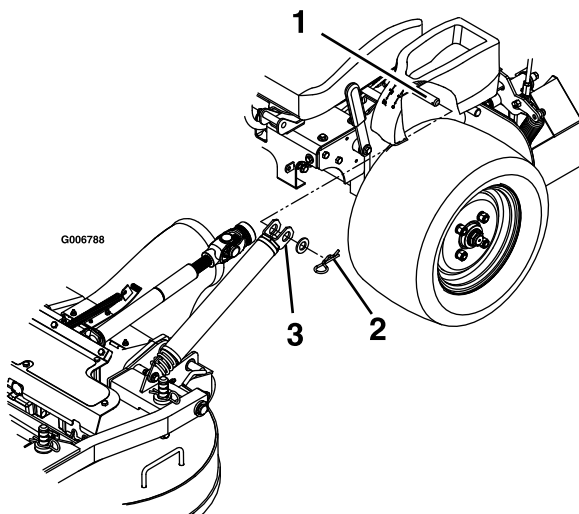

Figure 67
3. Remove the hairpin cotters and washers at the top of the deck-lift-assist spring on each side of the machine (Figure 67).
8. Install the springs onto the spring anchor pins under the left and right consoles and secure with a washer and hairpin cotter (Figure 67).